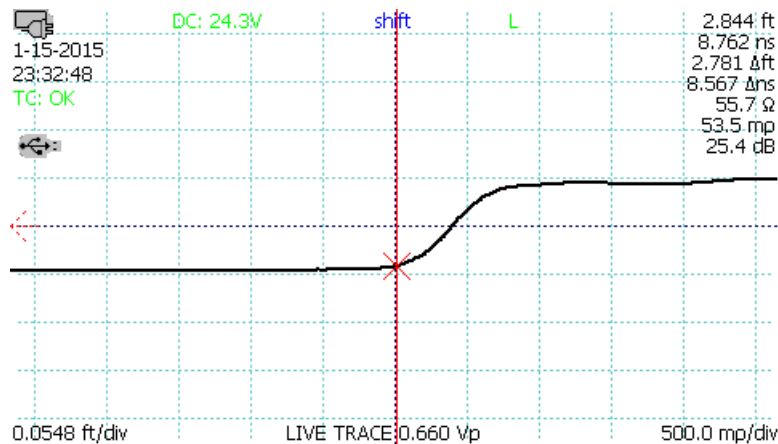

Figure 16: Use of the *HORIZONTAL SCALE* knob to improve *Vp* accuracy.
- 4) Position the active cursor at the end of the test cable. Use the *HORIZONTAL SCALE* knob to zoom in on the end of the cable and get an accurate placement (Figure 16).